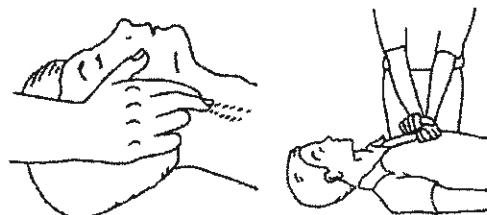
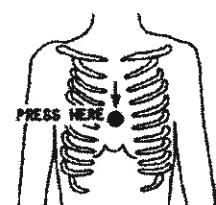

Figure 3
Figure 5
- Check carotid pulse (Figure 3); if pulse is absent, begin artificial circulation (Figure 4) depressing sternum 1 1/2" TO 2" (Figure 5).